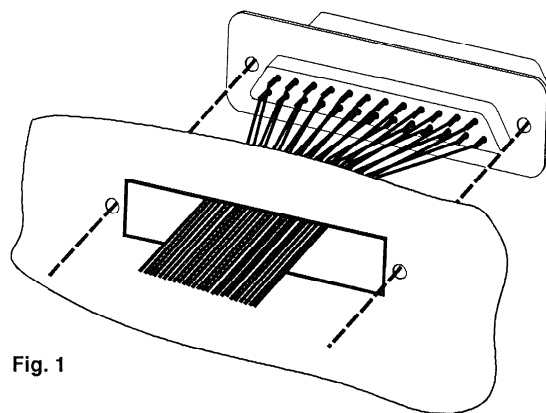

Fig. 1
- Install the new monitor cable harness: slide the 25-pin D-type connector through the left-hand rubber grommet in the punched cross member (viewed from the back) and fix it in the "Monitor Panel" position as shown in Fig. 1.